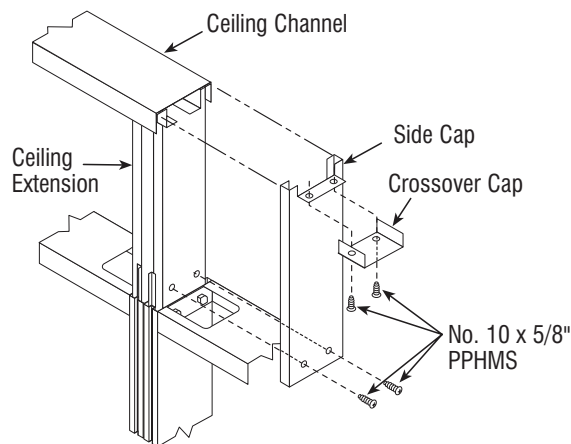

Figure 3-24 Ceiling Connector Trim
2. Place the side cap into the ceiling channel and against the ceiling extension. Secure the side cap at the bottom drilling 5/32" diameter pilot holes and secure using the two screws. See Figure 3-24.
4. Slide the crossover cap up and into the ceiling channel. Secure it at the end to the tabs on the side caps. See Figure 3-24 and 3-26.
3. Slide the crossover cap up and into the ceiling channel or wall frame top rail. Secure at the ends to the tabs on the side caps or to the top frame rail. See Figure 3-24 and 3-25.